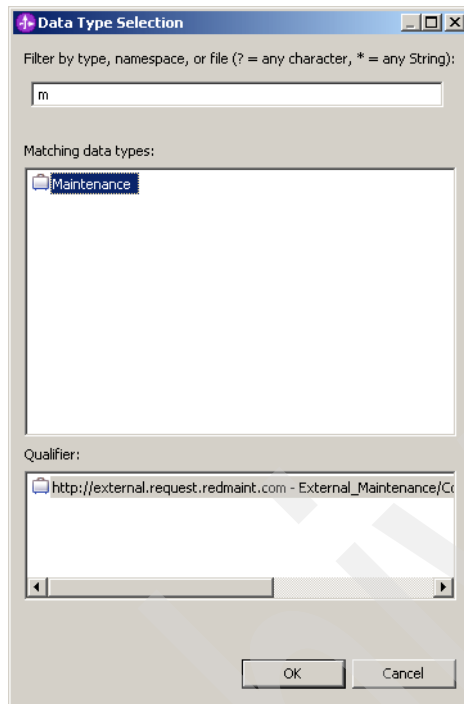

Figure 3-17 Select data type
16. Click **OK** (Figure 3-17).